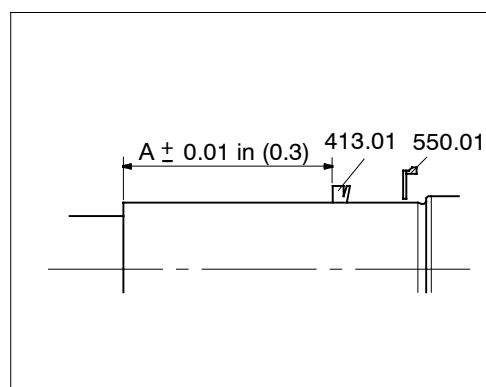

Fig. 13
- 4 Push the plate (550.01) onto the shaft. Make sure that the rubber lip on the outer edge of the plate comes to the bearing side. Fig. 13.